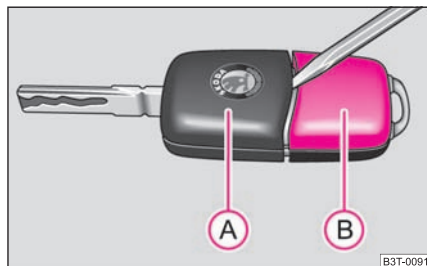

Fig. 23 Disconnect key with radio remote control
Each radio-operated key contains a battery which is housed in the cover **(B)** of the transmitter housing ⇒ fig. 23. We recommend that you have ▶
- Use a thin screwdriver to carefully lever off the front part of the key (A) ⇒ page 36, fig. 23 from the transmitter housing (B).